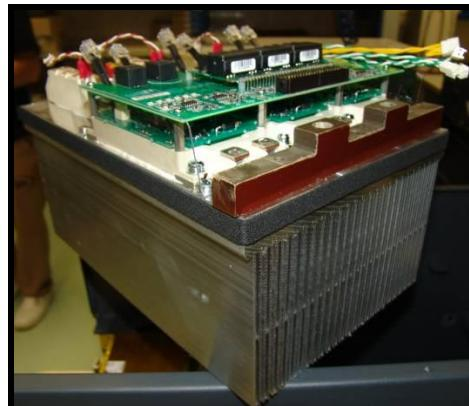

Figure 7.4.14. Disassembly the IGBT.
- 3) Remove the screws (**M6x12 DIN-7895H**), which fix the capacitors and the bus bar to the IGBT (see figure 7.4.14 a).
Figure 7.4.14 a.
- 3) Put the IGBT matching the fixing holes (see figure 7.4.14).